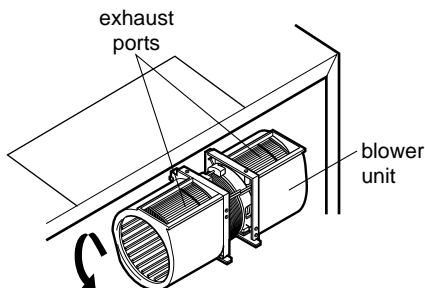

Figure 13
5. Rotate the unit so that the exhaust ports face the upper of the cabinet. See Figure 13.